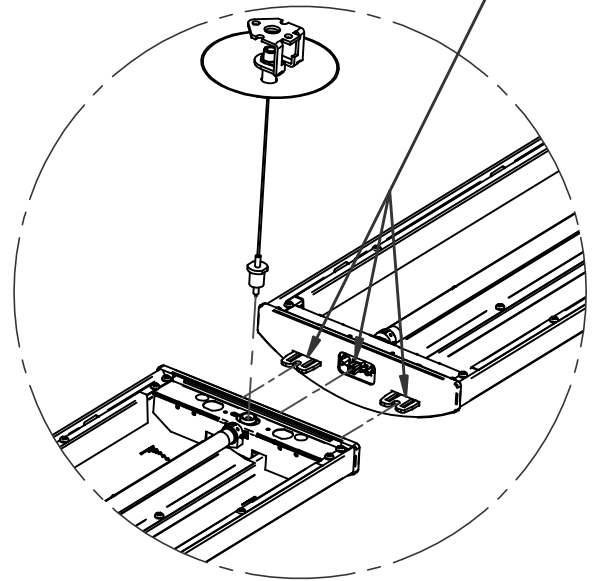
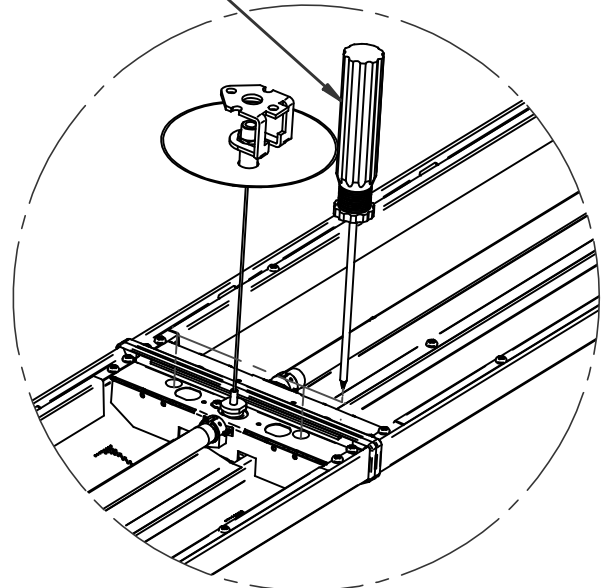
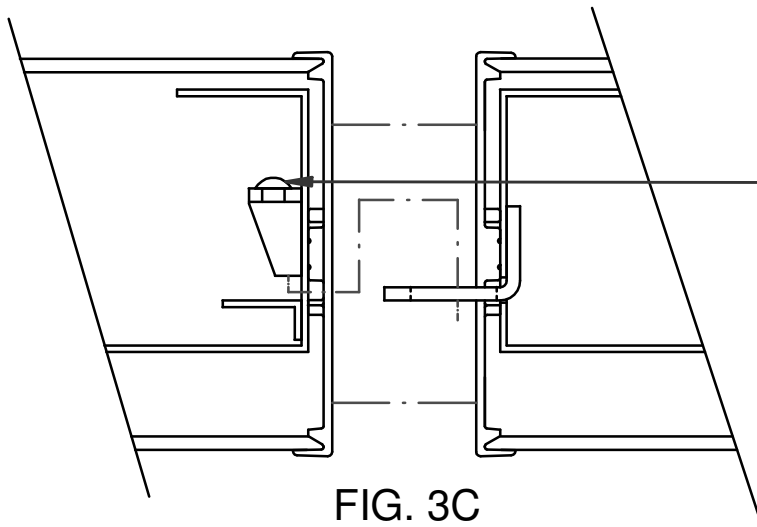

FIG. 3A
FIG. 3B
FIG. 3C
3. Suspend next fixture and mate it to the previous fixture (see FIG. 3A, FIG. 3B & FIG. 3C). This step is only required for fixtures in a run configuration.